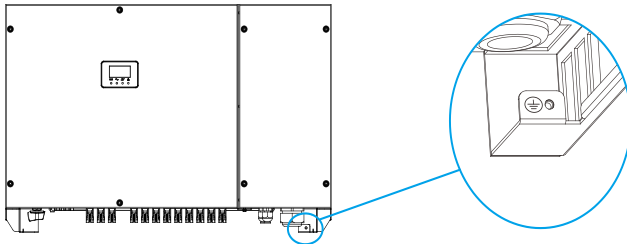

Figure 5.3 Securing the PGND cable to the ground point
- Step 3 : Remove the ground screw from the ground point, secure the PGND cable (from step 1 & 2) using the ground screw with a torque of 5 N•m, as shown in Figure 5.3. The PE (ground) wire must be well grounded to ensure that impedance between Neutral wire and Earth wire be less than 10Ω .